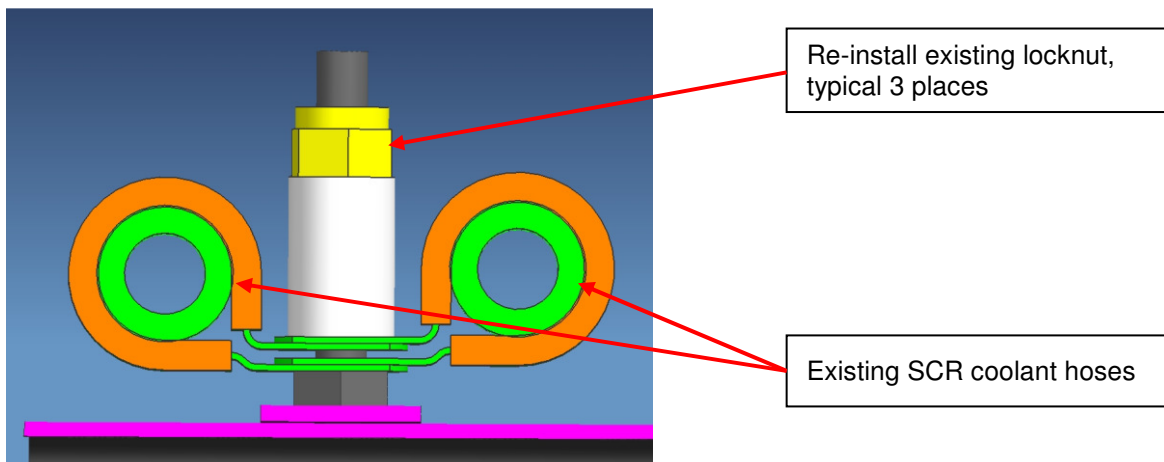

Figure 2: Re-worked Coolant Hose Configuration
5. Remove and discard the p-clips that are securing the DEF supply hose assembly only to the bottom of the SCR compartment and re-install the locknuts removed in previous step, typical in 3 places. See Figure 2.